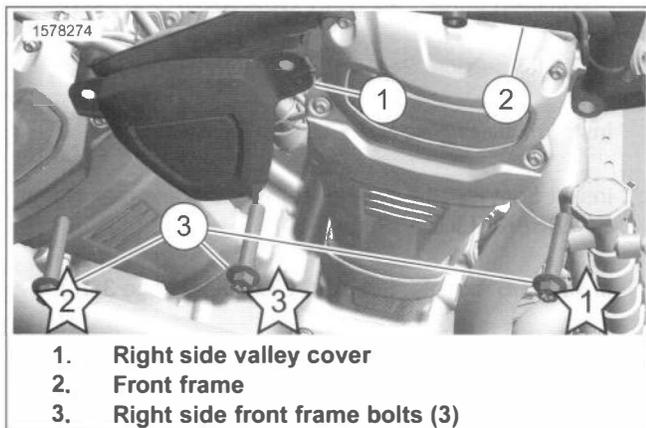
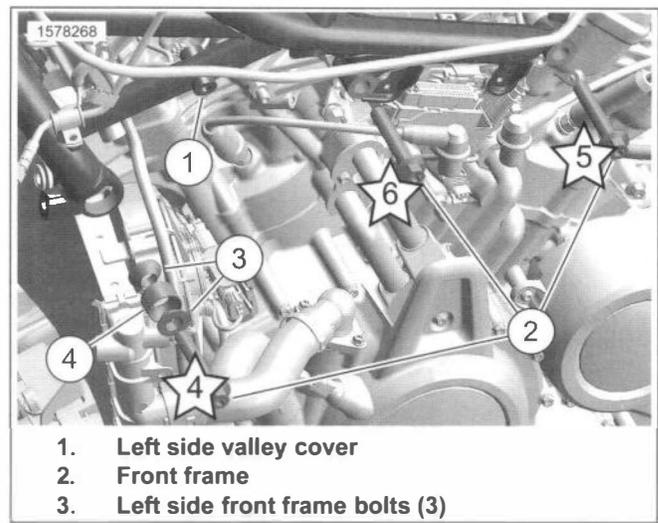

Figure 3-112. Right Side Front Frame Bolts
Figure 3-113. Left Side Front Frame Bolts
2. See Figure 3-112. Install front frame.
- a. Position front frame (2), install right front bolt (3).
- b. Install right side valley cover (1).
- c. Install right side rear bolts (3).
3. See Figure 3-113. Install left side front frame bolts.
- a. Assemble tapered washer (3), collet (4), tapered washer (3) onto the front frame lower bolt (2).
- b. Install front frame bolts (2). Tighten all six front frame bolts in the sequence shown using the star callouts in Figure 3-112 and Figure 3-113.